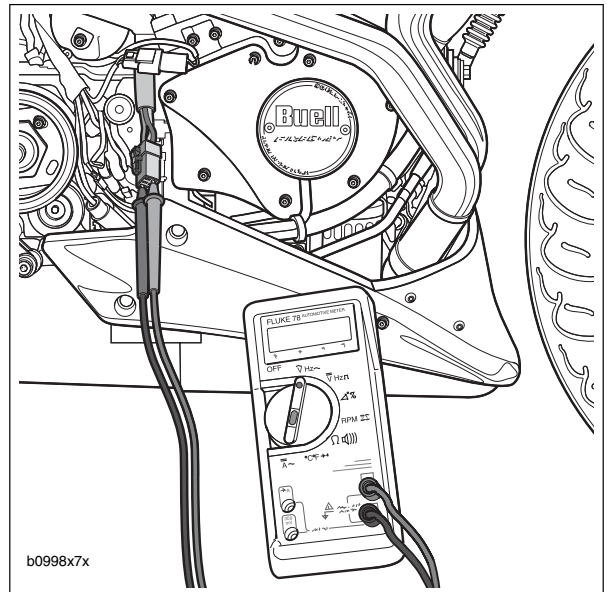

Figure 7-31. Check Stator AC Voltage Output
1. See Figure 7-31. Test AC output.